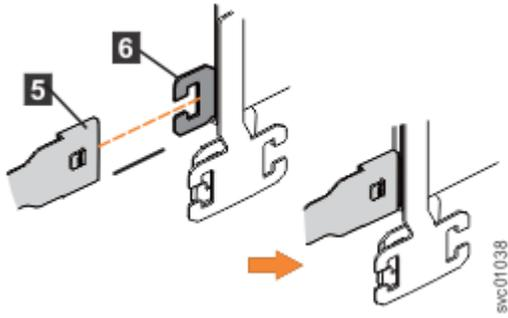

Figure 76. Attach the support rail connector of the upper CMA to the right support rail
4. Attach the support rail connector on the upper CMA assembly (5) to the connector base on the right support rail (6), as shown in Figure 76 on page 71.